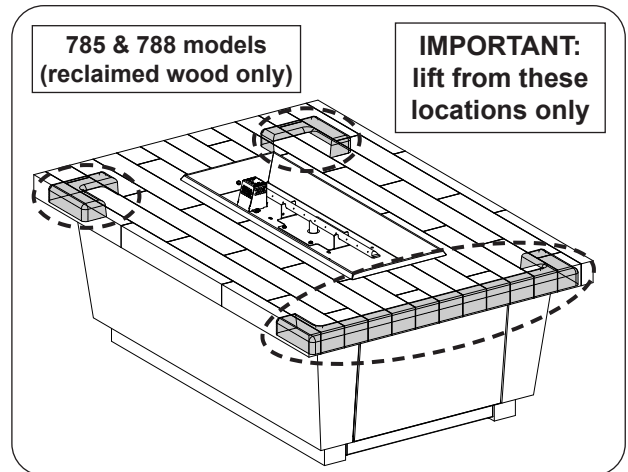

Fig. 30-2 Handling unit detail (if applicable)
**Important:** For 785 and 788 reclaimed wood models, only lift the unit from the lift points (see Fig. 30-2). **DO NOT lift from the tabletop.**